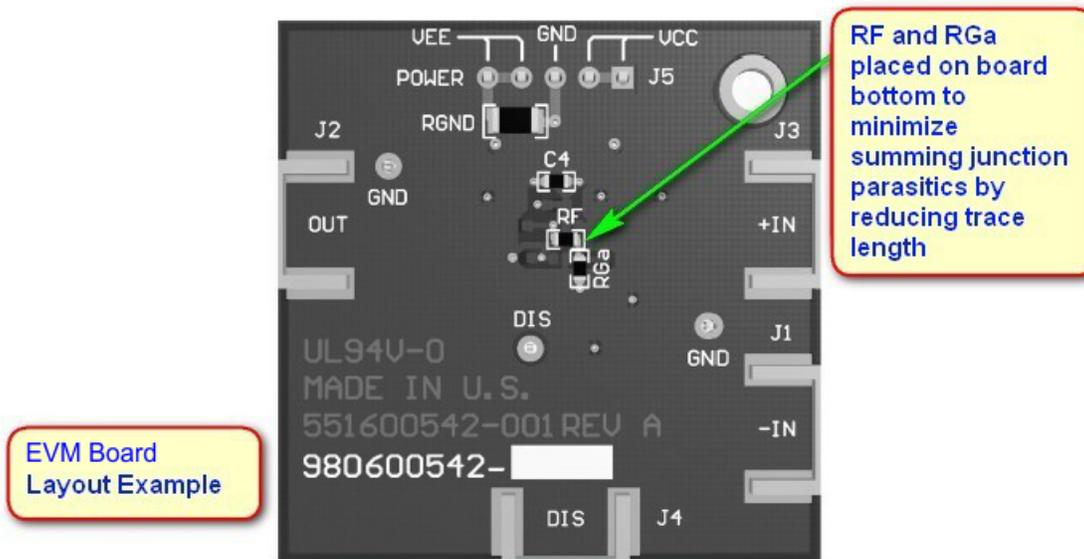

Figure 29. LMH6702 Evaluation Board Layer 2
- The input summing junction is very sensitive to parasitic capacitance. Connect any R_f , and R_g elements into the summing junction with minimal trace length to the device pin side of the resistor, as shown in Figure 29. The other side of these elements can have more trace length if needed to the source or to ground.